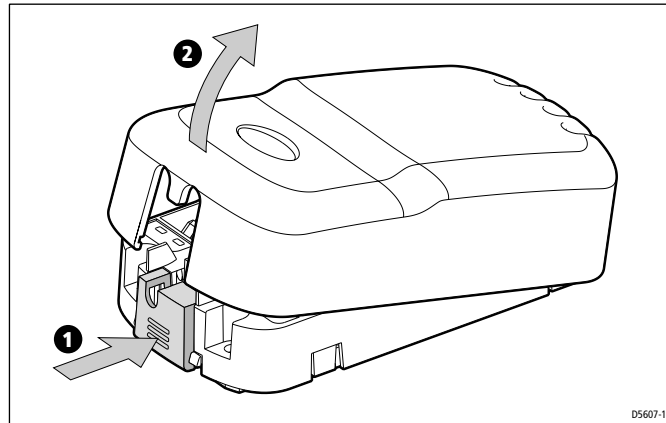

Figure 2-14: Removing Pod cover
1. Remove the Pod cover as shown in *Figure 2-14*.